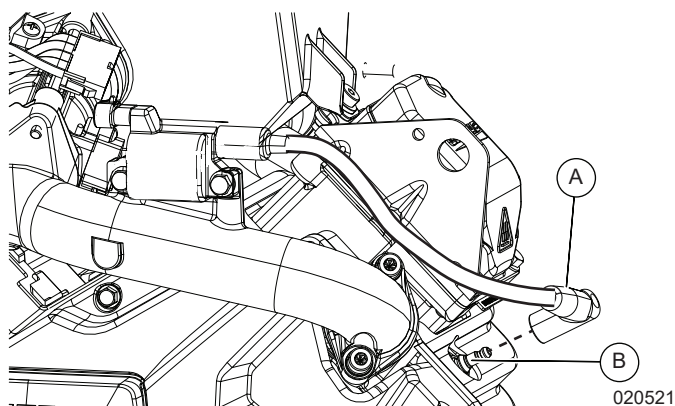

Figure 6-1. Remove Spark Plug Wires
1. See Figure 6-1. Remove spark plug wires (A) from spark plugs (B).